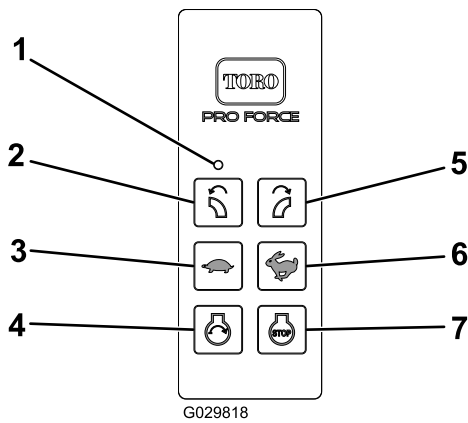

Figure 15
3. Engine Start only becomes energized by pressing the Start button while the Engine Start Enable Condition is active. The Engine Start Enable Condition becomes active only when the following Engine Start Enable Sequence has been performed (Figure 15):